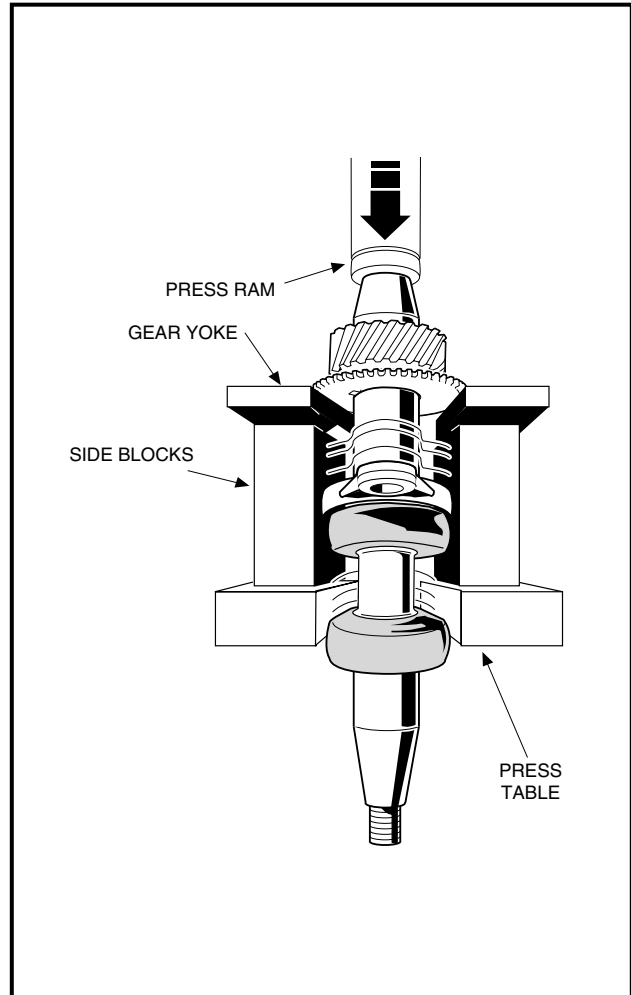

Figure 13-75 Remove Helical and Spur Gears
3. Position the gear yoke with the side blocks positioned as close to the crankshaft as possible (**Figure 13-75, Page 13-37**).
4. Using a press, push on the end of the crankshaft to pull the spur gear and the helical gear off the crankshaft (**Figure 13-75, Page 13-37**). **See following WARNING and CAUTION.**